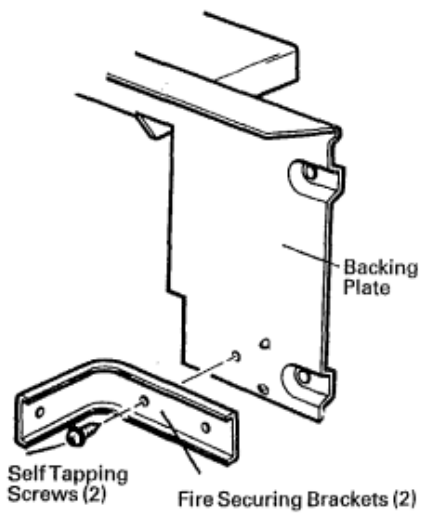

Fig. 7. Backing Plate
Slide out the burner and remove the electrode and injectors from the burner (Fig. 7 & 11).
- ii) Remove the four screws securing the heat exchanger to the inner case and remove the heat exchanger. (Fig. 7).